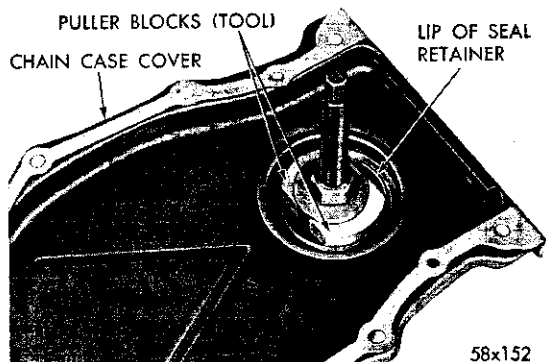

Fig. 23—Removing Timing Chain Case Cover Oil Seal Using Tool C-3506
(1) Position the puller screw of Tool C-3506 through the case cover, the inside of the case cover up. Position the puller blocks directly opposite each other, and force the angular lip between the neoprene and flange of the seal retainer.
(2) Place the washer and nut on puller screw. Tighten the nut as tight as possible by hand, forcing the blocks into gap to a point of distorting the seal retainer lip (Fig. 23). This is important (puller is only positioned at this point).
(3) Place the sleeve over the retainer and place the removing and installing plate into the sleeve.
(4) Place the flat washer and nut on the puller